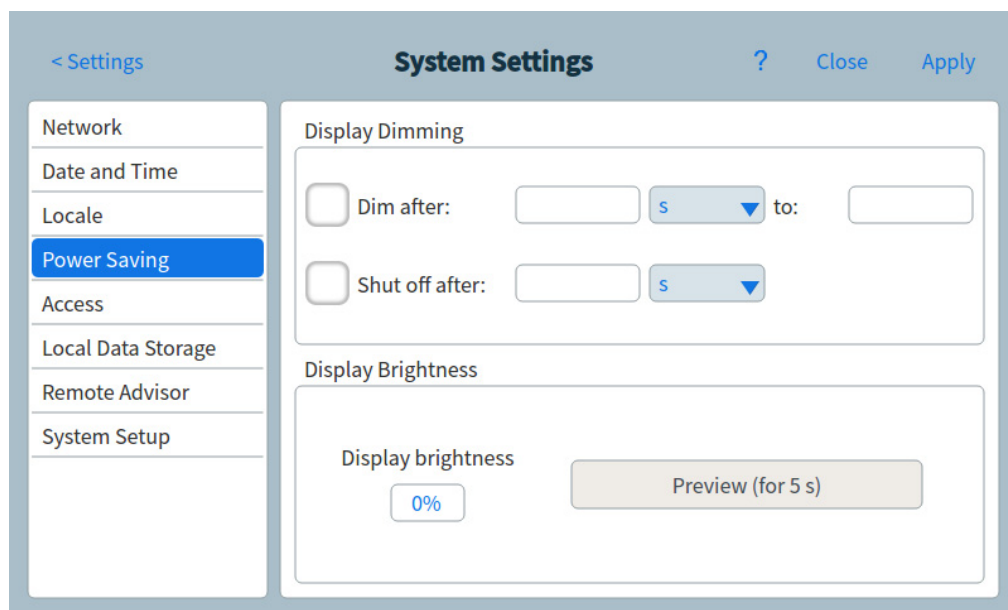

Figure 47 Power Saving page
- 1 From the System Settings page, press the **Power Saving** page selection button. The Power Saving page appears. See Figure 47.